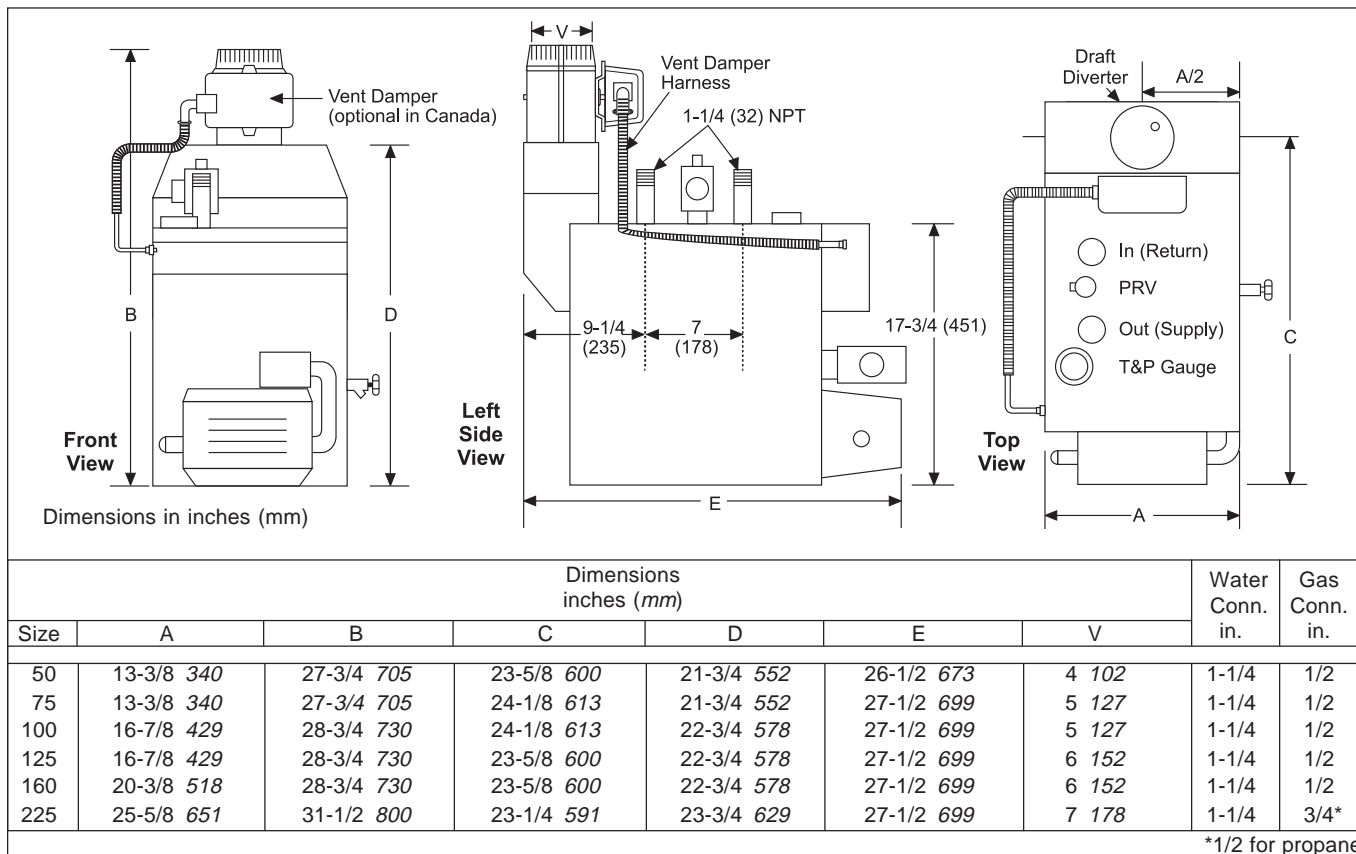

Figure 4. Dimensional Information.
3. A trap (drip leg) must be provided ahead of the gas controls (see Figure 4). A manual gas shutoff valve must also be provided for service convenience and safety. Check the local codes.
A drain valve is supplied with the boiler, and can be found in the plastic bag shipped with each boiler. This valve is to be installed on the lower right side of the boiler, see Figure 4, and is used for draining the unit. **To drain the boiler completely, open the drain valve and remove the two drain plugs located on the lower left side of the boiler.**